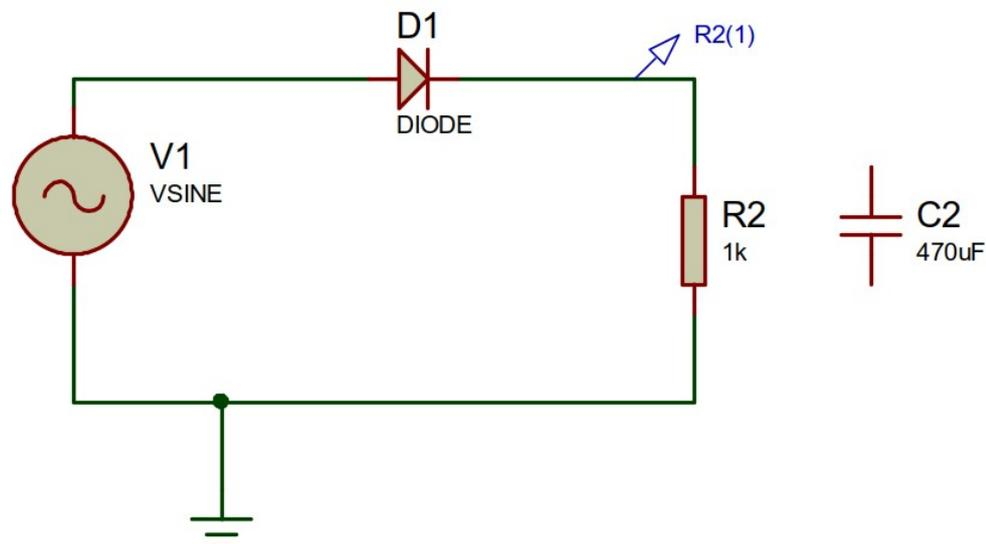

Figure 67: Half-wave Rectifier
1. Create the half-wave rectifier circuit shown in Figure 67.